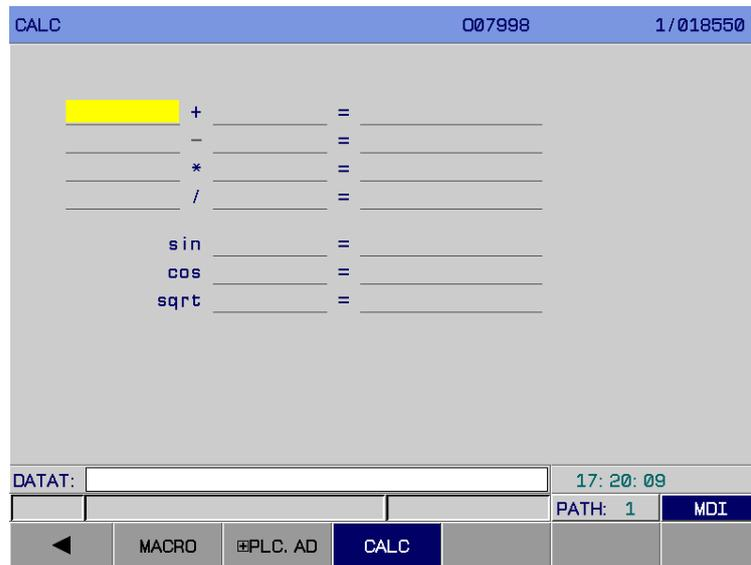

Fig. 3-9-12
8. CALCULA page In <HELP> page, press soft key **【CALCULA】** to enter this page. See fig. 3-9-12: